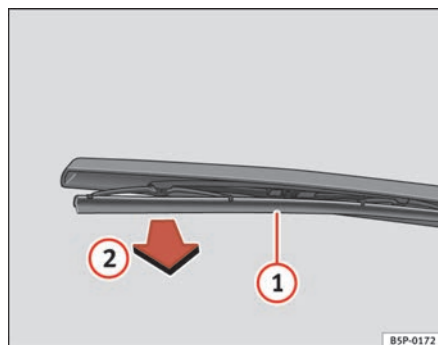

Fig. 169 Changing the rear window wiper blade
- Lift the wiper arm away from the glass ⇒ fig. 169.
- Unclip the wiper blade ① and pull ② ⇒ fig. 169.